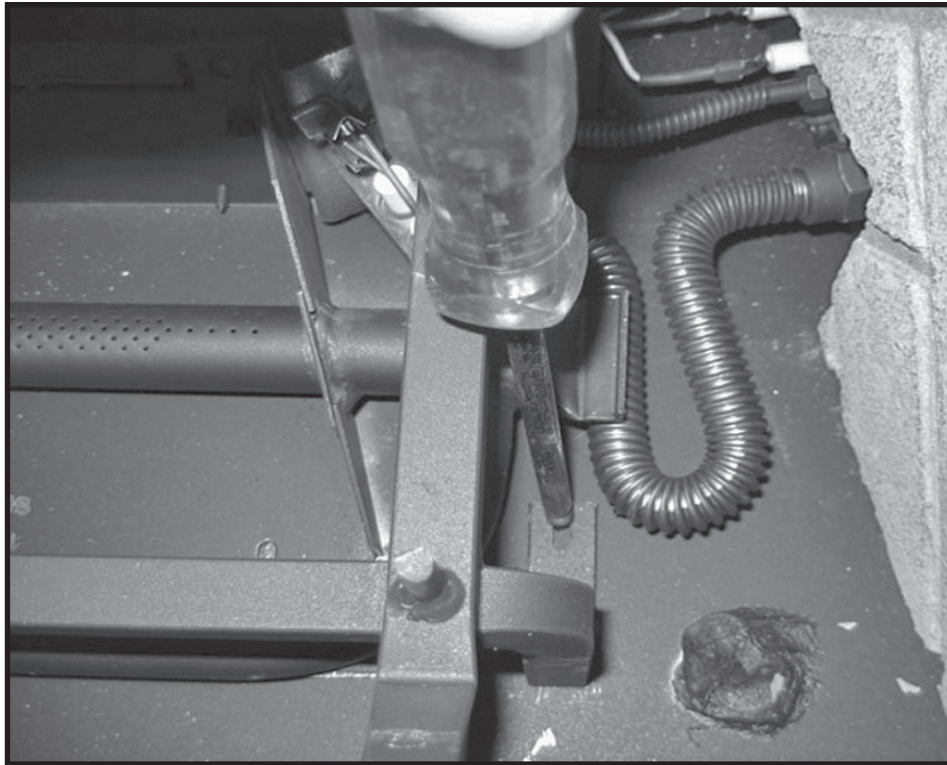

Figure 9: Securing log grate to the floor.
8. With a panel set installed, position the slots of the log grate securing brackets over the holes in the floor shield and secure with the two screws (Figure 9).